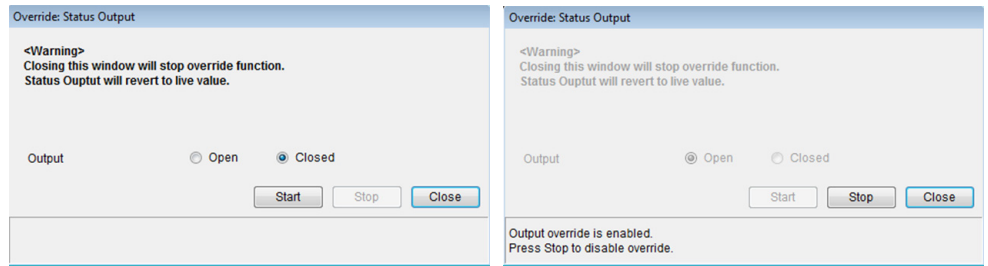

Figure 4.7—Override Status Output before simulation (left) and during simulation (right)
- Click **Diagnostic/Service>Loop Test>Override: Status Output**. The *Override: Status Output* dialog (Figure 4.7, left) will appear.
During simulation, the status message (Figure 4.7, right) appears at the bottom of the dialog.